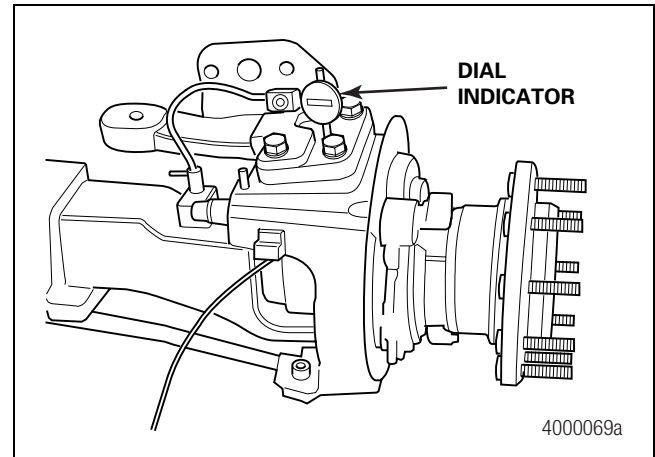

Figure 5.4
- D. Place a jack and a wood block, with a hole that allows clearance for the lower grease fitting, under the lower king pin cap area. Figure 5.4.
4. For medium-duty axles, the reading must be 0.001-0.065-inch (0.025-1.650 mm) for new axles and 0.001-0.075-inch (0.025-1.905 mm) for axles in service. For heavy-duty axles, the reading must be 0.005-0.015-inch (0.127-0.381 mm). Figure 5.4.